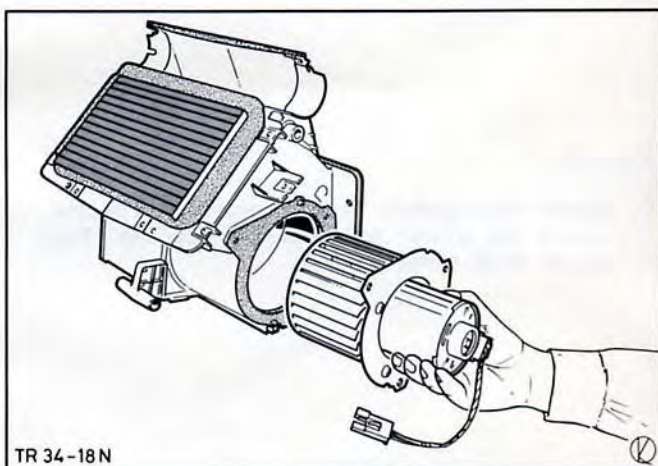

Fig.26. Insert the electric motor in the heater casing.
9. Position gasket on heater casing, slide the electric motor with the fan into the casing and secure with three screws, Fig.26.